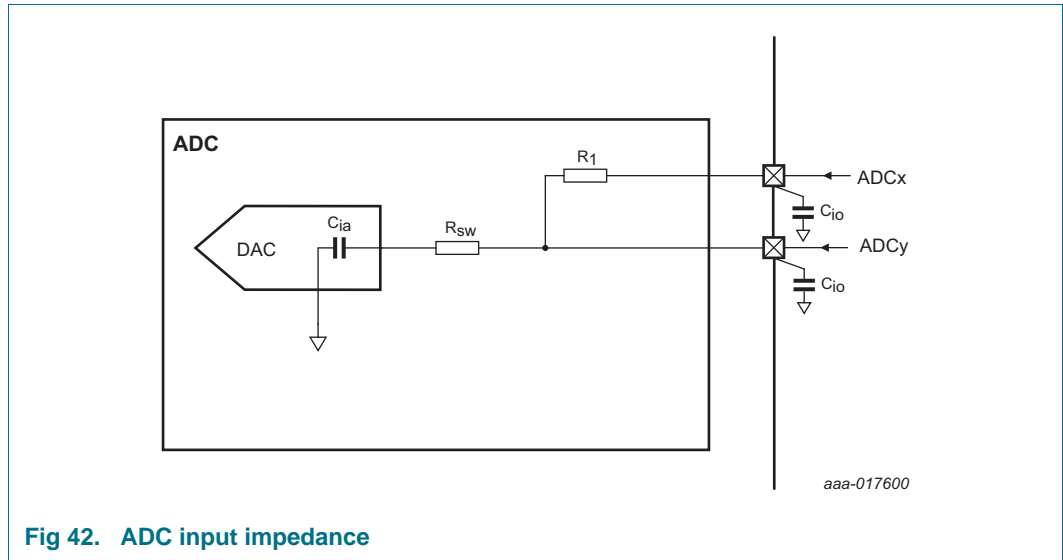

Fig 42. ADC input impedance
- [10] Input impedance Z_i is inversely proportional to the sampling frequency and the total input capacity including C_{ia} and C_{io} : $Z_i \propto 1 / (f_s \times C_i)$. See Table 20 for C_{io} . See Figure 42.
- (1) Example of an actual transfer curve.
- (2) The ideal transfer curve.
- (3) Differential linearity error (E_D).
- (4) Integral non-linearity ($E_{L(adj)}$).
- (5) Center of a step of the actual transfer curve.
Figure 42 shows the ADC input impedance. In this figure: